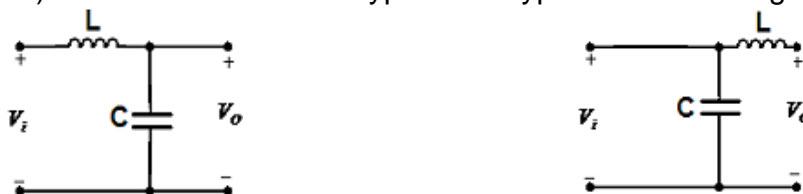

Fig: 2 LP filter
Low-pass (LP) filter can be either LC type or CL type as shown in fig. 2.